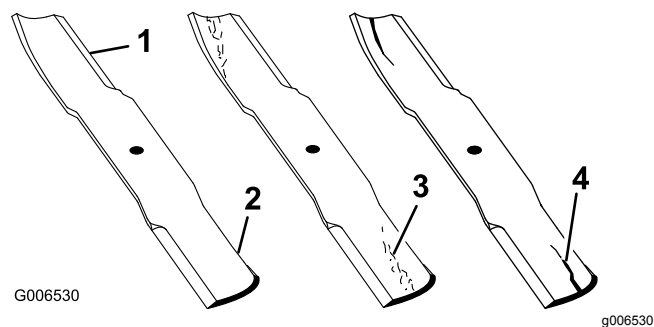

Figure 45
1. Inspect the cutting edges (Figure 45). If the edges are not sharp or have nicks, remove and sharpen the blades; refer to Sharpening the Blades.
2. Inspect the blades, especially the curved area (Figure 45). If you notice any damage, wear, or a slot forming in this area (items 3 and 4 in Figure 45), immediately install a new blade.